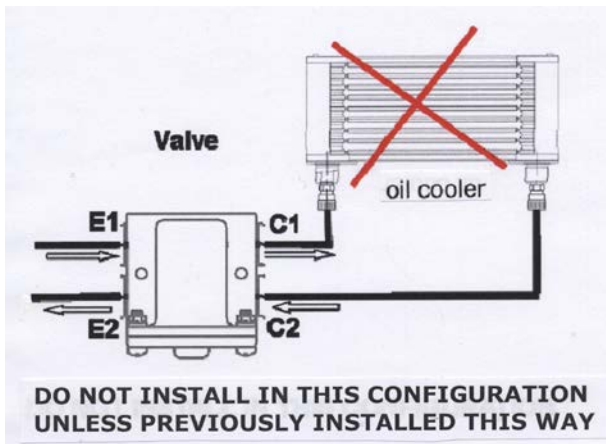

Figure 3. Inverted oil cooler may only be used if oriented this way before installing valve.
3.3 Thermostatic Valve Due to it's position in the oil circulation system any debris left in the valve could damage the oil pump before being trapped by the oil filter. If the valve was supplied by ConAir Sports Ltd it should have a certificate indicating that the valve has been opened, cleaned and all internal burrs removed. If no certificate accompanies the valve or it was obtained from any other source the valve must be opened, deburred, cleaned and reassembled. See Figure 3. You will need circlip pliers to do this. Lightly oil the bore as the valve is reassembled. After cleaning and reassembly, screw on the four (3/8in NPT) hose fittings using Loctite 2701 or Loctite 648. Angled or Banjo type fittings are usually too restrictive to ensure